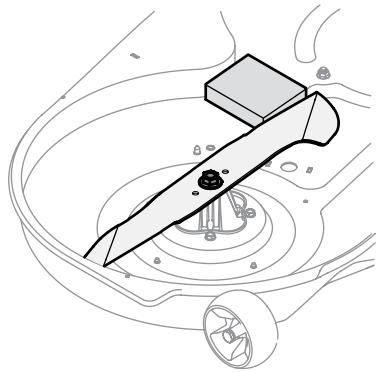

Figure 4-16
2. Place a block of wood between the center deck housing baffle and the cutting blade to act as a stabilizer. See Figure 4-16.
3. Remove the hex flange nut that secures the blade to the spindle assembly. See Figure 4-16.